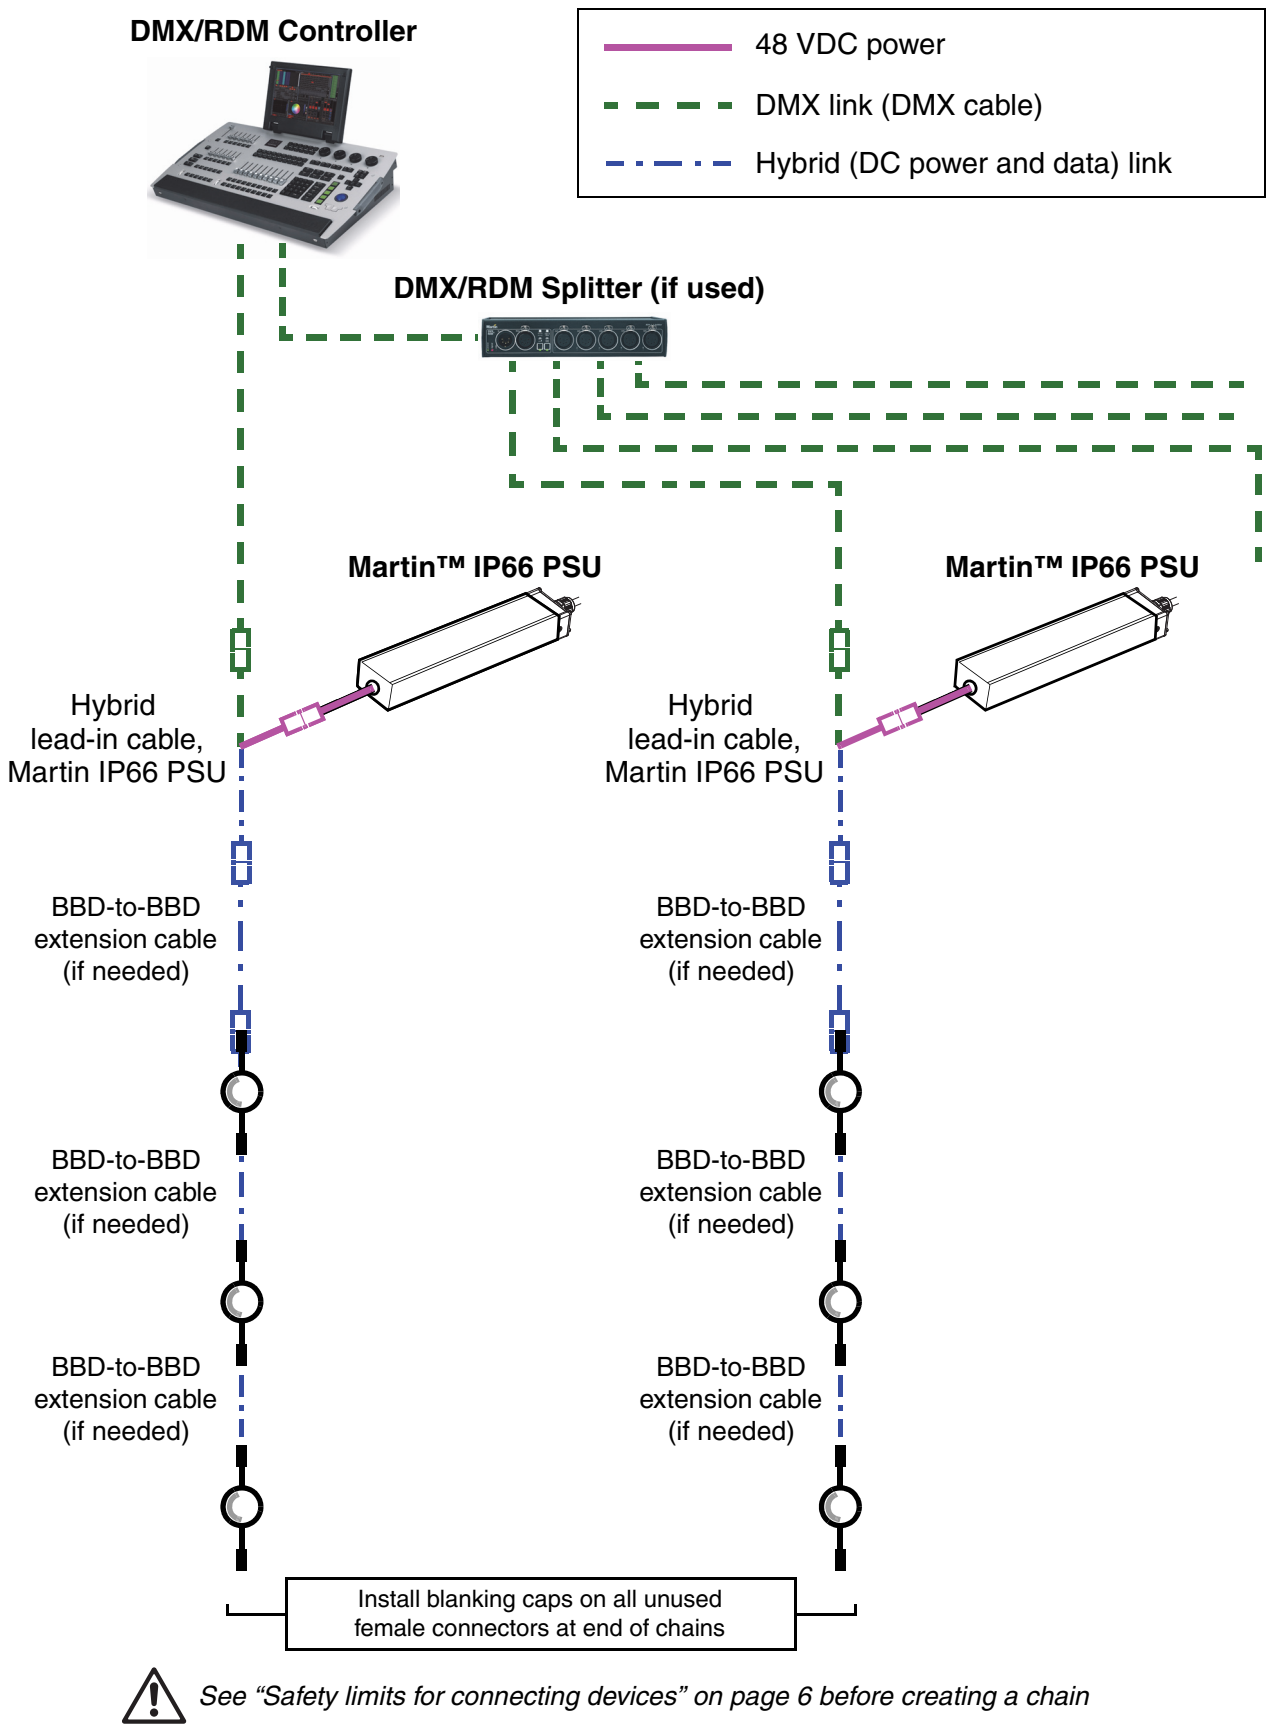

Figure 8: DMX-controlled system using the Martin™ IP66 Power Supply Unit
1. See Figure 8 on page 20 for an overview of this type of installation